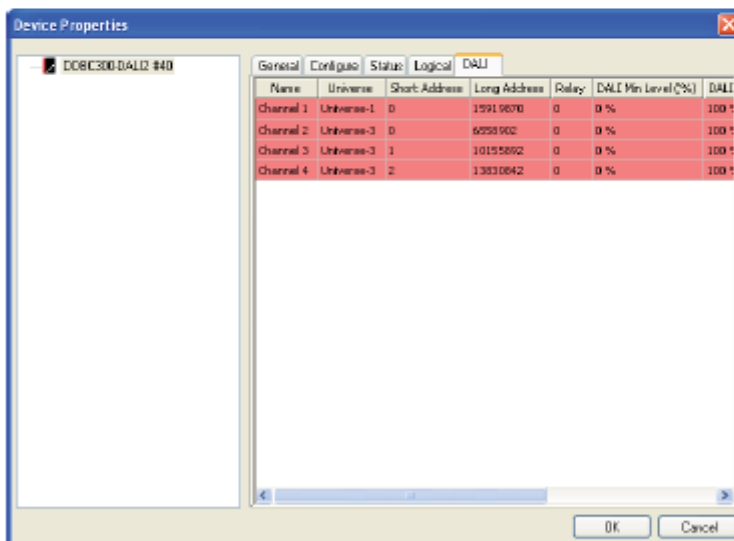

Figure 15-5
- Once enumeration is complete, double click on the controller and select the DALI tab in the Device Properties dialog. (Figure 15-5).